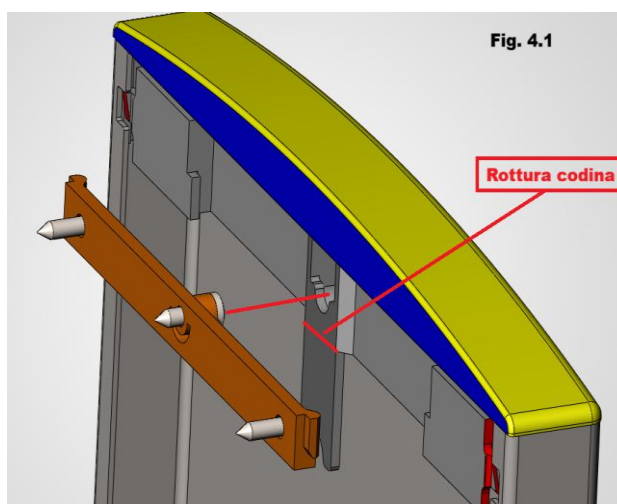

Fig. 4.1 — Reattachment to the upper bracket
2. Reattach the COP to the upper bracket using the corresponding slot on the upper end (Fig. 4.1).